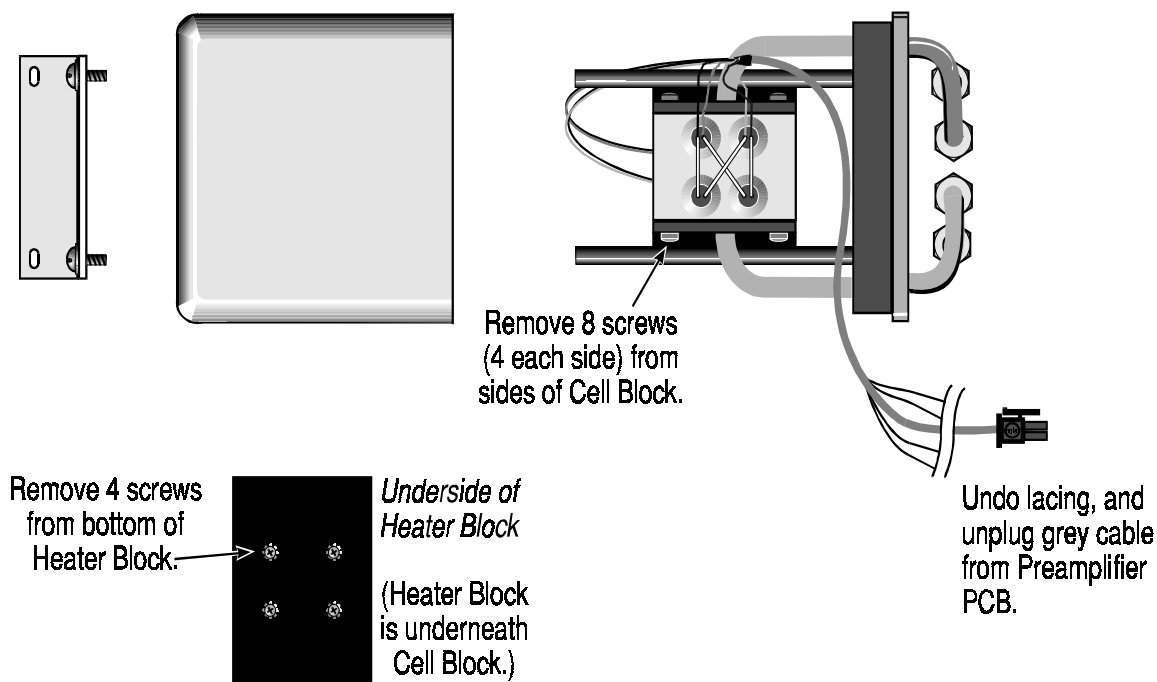

Figure 5-6: Removal of Cell from Cell Housing
- a. Refer to Figure 5-6, which illustrates removal of the Cell Block from the Cell Compartment. Exploded view is as seen from the top of the Cell Block.